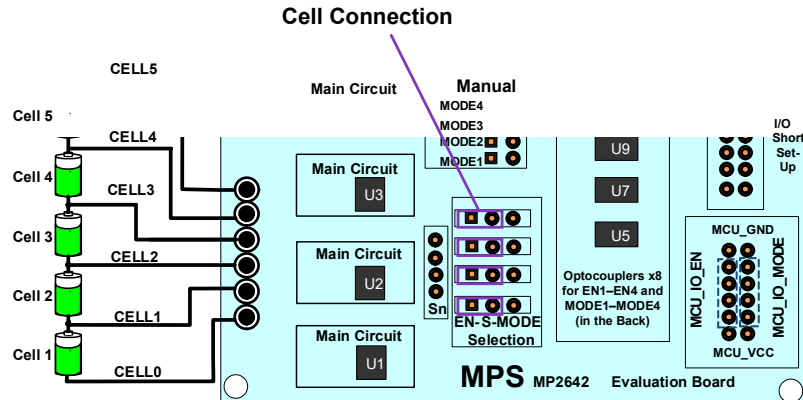

Figure 4: Configuring the Enable Signals to Connect Cells to Balancer
When the active balancer chip is enabled for operation, the MOSFETs must be turned on at the same time; in the design, MOSFET control can be combined with enable (EN) control. Figure 4 shows the jumpers that are provided to configure these MOSFETs.